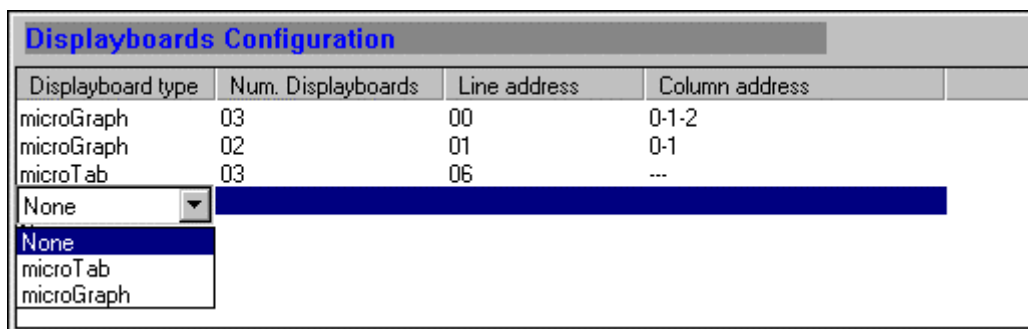

Figure 35 - "Displayboards Configuration" dialog box
- Column address: in the case of graphic displayboards in this area the program indicates to the user the column address to be assigned to each graphic displayboard inserted. In the case of Figure 35, the following addresses must be assigned in the first line of three graphic displayboards: